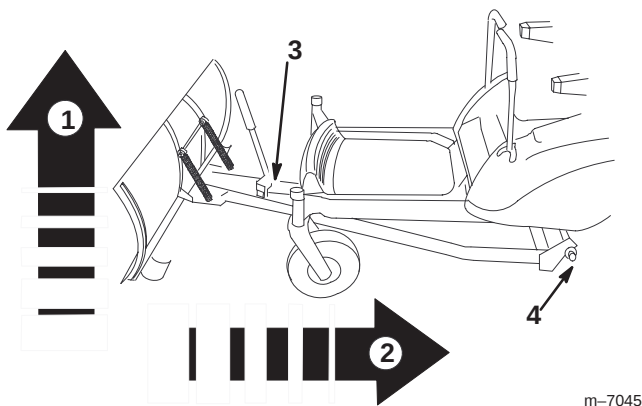

Figure 12
2. Lift the blade assembly off the ground and slide the frame assembly beneath the traction unit as depicted by the arrows shown in figure 12.